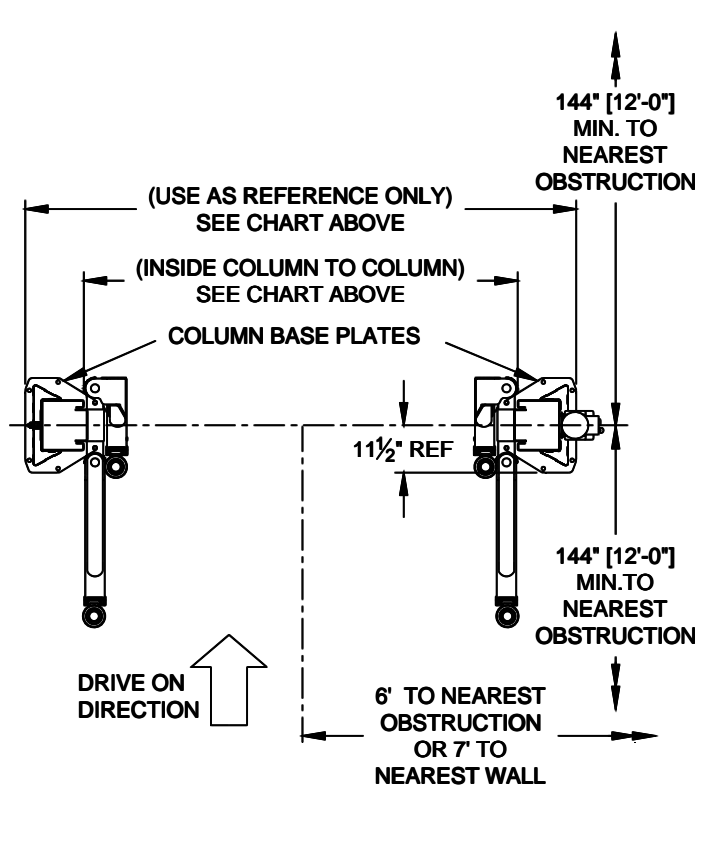

Fig1b - Service Bay Layout
- 1) Layout the service bay according to the architect's plans or owners instructions (**see Fig 1b**). **Failure to install in this orientation can result in personal and property damage.** Be certain that the proper conditions exist, see page 3.